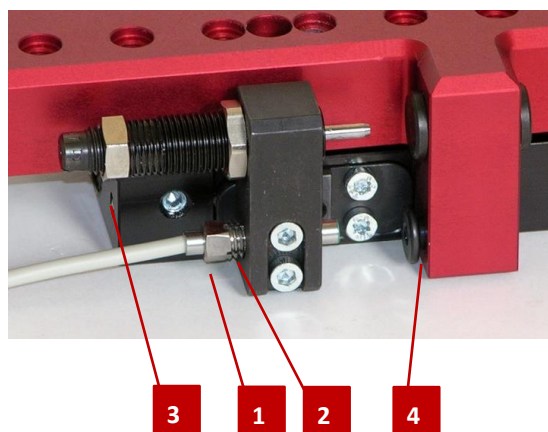

Fig. 10 Mounting the inductive initiator
1. Screw the initiator (Fig.10, 1) with the clamping sleeve (Fig.10, 2) into the holder A and B (Fig.10).
2. Adjust and tighten initiator (Fig. 10, 1) together with shock absorber (Fig. 10, 3).
4. Check initiator for correct function via initiator contact screw (Fig. 10, 4).